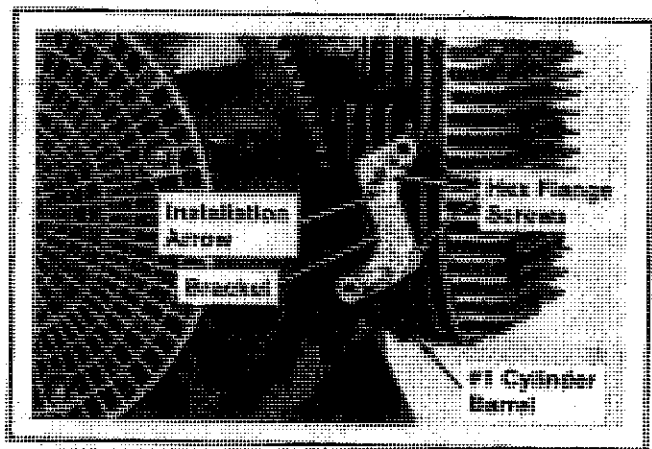

Figure 11-38. Installing Ignition Module Bracket.
1. Install the bracket and hex flange screws to #1 cylinder barrel. Make sure the arrow on bracket is pointing to top of crankcase. Refer to Figure 11-38.